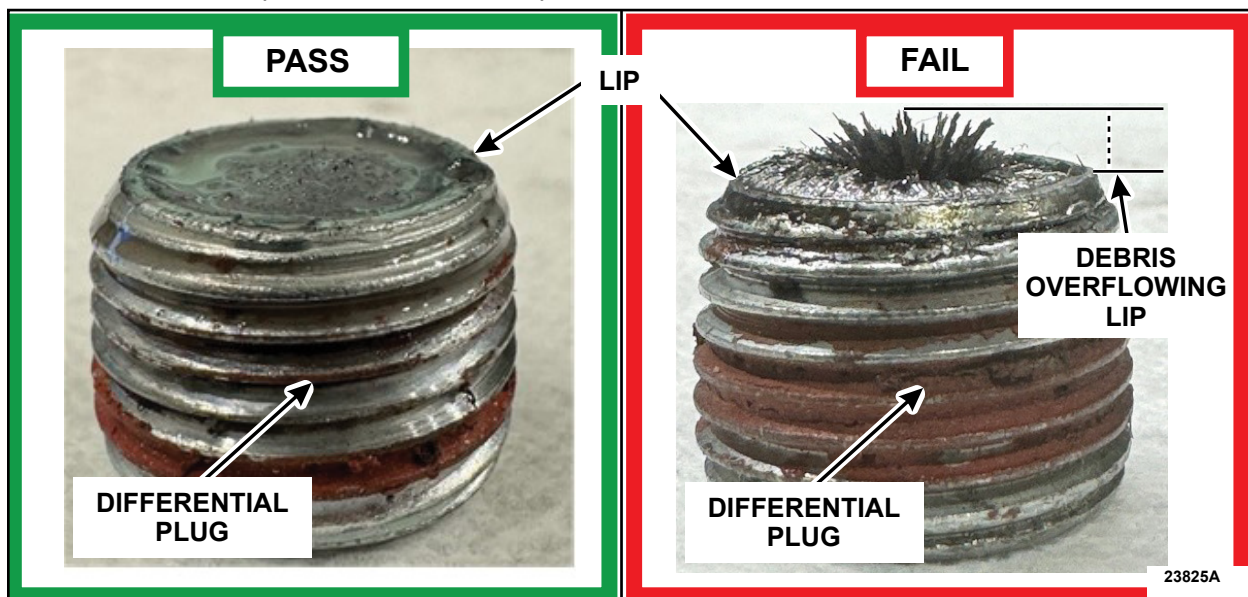

FIGURE 2
6. Is there metal debris spilling over or extending above the lip of the plug magnet? See Figure 2.